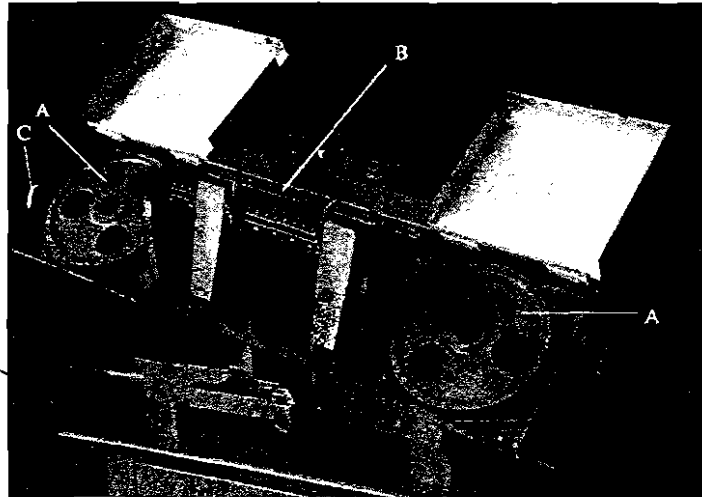

FIG. 1
4. Release blade tension by turning the blade tension handwheel (C) Fig. 1 counterclockwise.
7. Place the blade in place on the wheels (A) and through the upper blade guard (B) Fig. 1. Fig. 1 is shown with the wheel covers removed for clarity.